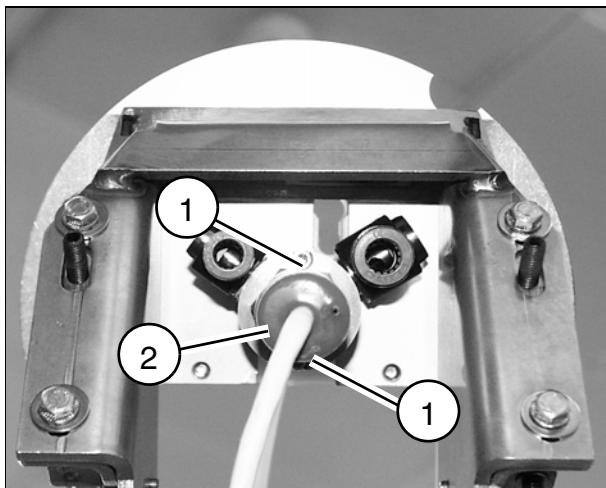

Fig. 21
- Remove the two screws (1/Fig. 21).
- Remove the lower part (2/Fig. 21).
- Reattach the lower part (2/Fig. 21).
- Tighten the two screws (1/Fig. 21).
- Remove both screws (1/Fig. 21).
- Pull out the lower part (2/Fig. 21).